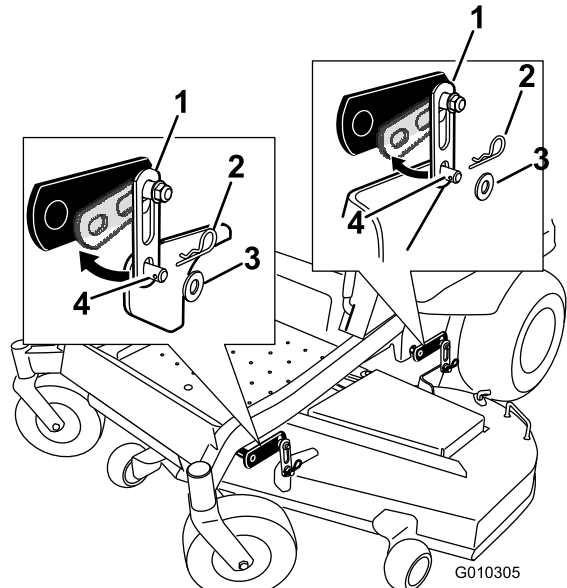

Figure 69
5. Lift the rear of the mower deck and guide the hanger brackets over the rear hanger bolts (Figure 69).
5. Lift the rear of the mower deck and attach the rear support on the mower deck to the rear deck hangers. Secure them with a clevis pin and hairpin cotter (Figure 69).